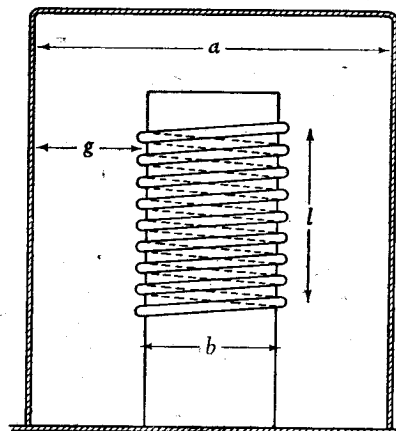

Fig. 1. Section of screened coil showing essential dimensions required in calculations.
where  $L_o$  = screened inductance,  $L$  = unscreened inductance and the other symbols are as shown in Fig. 1. The assumptions are (i) that the coil is cylindrical, (ii) that the screen is cylindrical, (iii) that the coil and screen are coaxial, (iv) that the gap between the ends of the winding and the ends of the screen is equal to or greater than the gap "g" and (v) that the screen is not unreasonably thin.
The chart for the change of inductance due to a screening can is based on equation (I), and Bogle claims this to be accurate within 2 per cent. Fig. 1 shows the various dimensions involved and the relations between them, and the key indicates the procedure to be adopted on the chart. One example will be given by way of illustration.